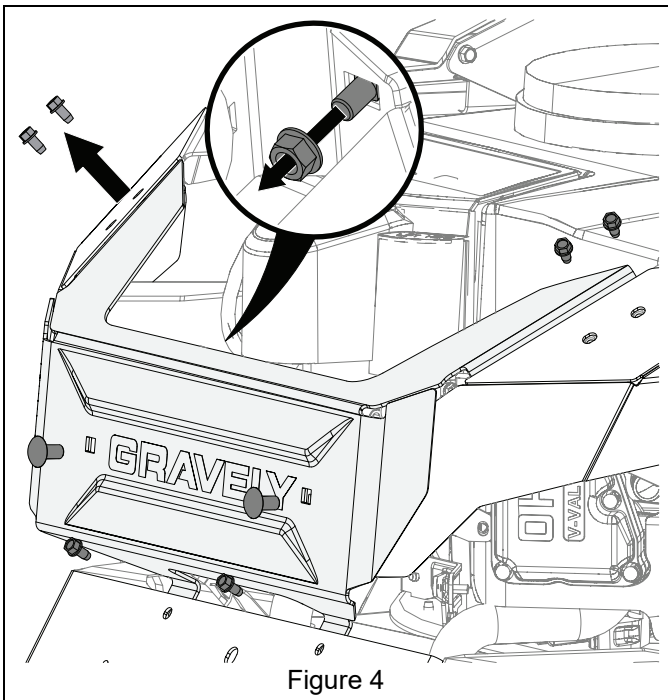

Figure 4
- Remove and retain six tapping screws and two round head square neck bolts and hex nuts securing rear wrap. See Figure 4.